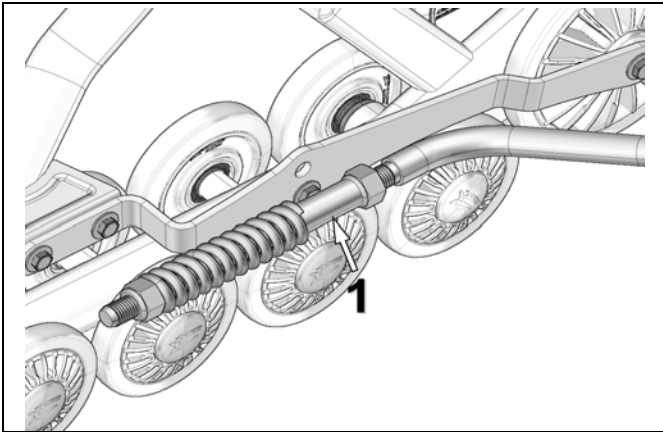
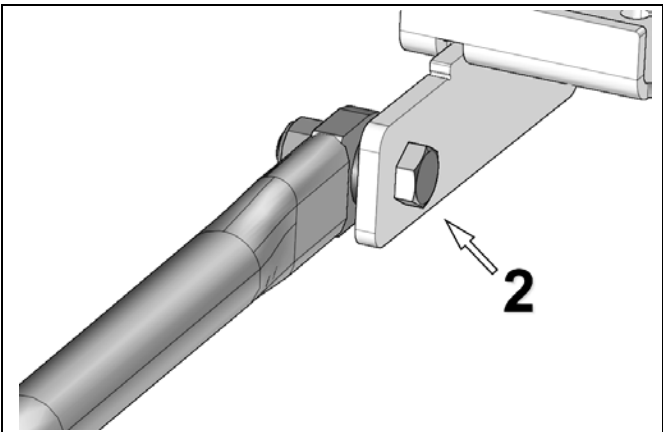

Figure 8
Figure 9
- Stabilizing arm (1) must be attached to track system and to rear anchor bracket (2) installed on vehicle. See Figure 8 and Figure 9.